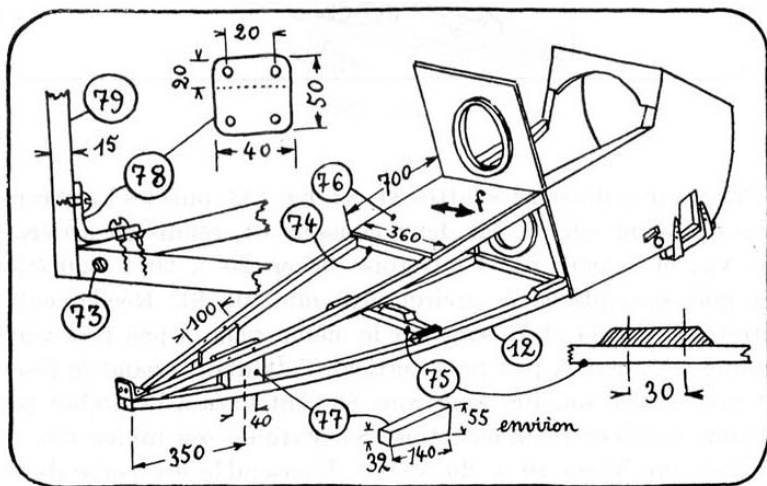

Figure 3.16: Rear point
Join longerons (12) and (17) in a point (*fig. 3.16*) with a wood screw (73) 4×40 with a countersunk head, making sure to insert members (74) and (75) 700mm from the seat back. Put in place the luggage-box floor (76) of 3mm stock, and two hardwood wedges (77) fastened with 2×40 round-headed screws spaced 40mm apart, reinforced internally with pieces of 3mm plywood with the grain vertical.